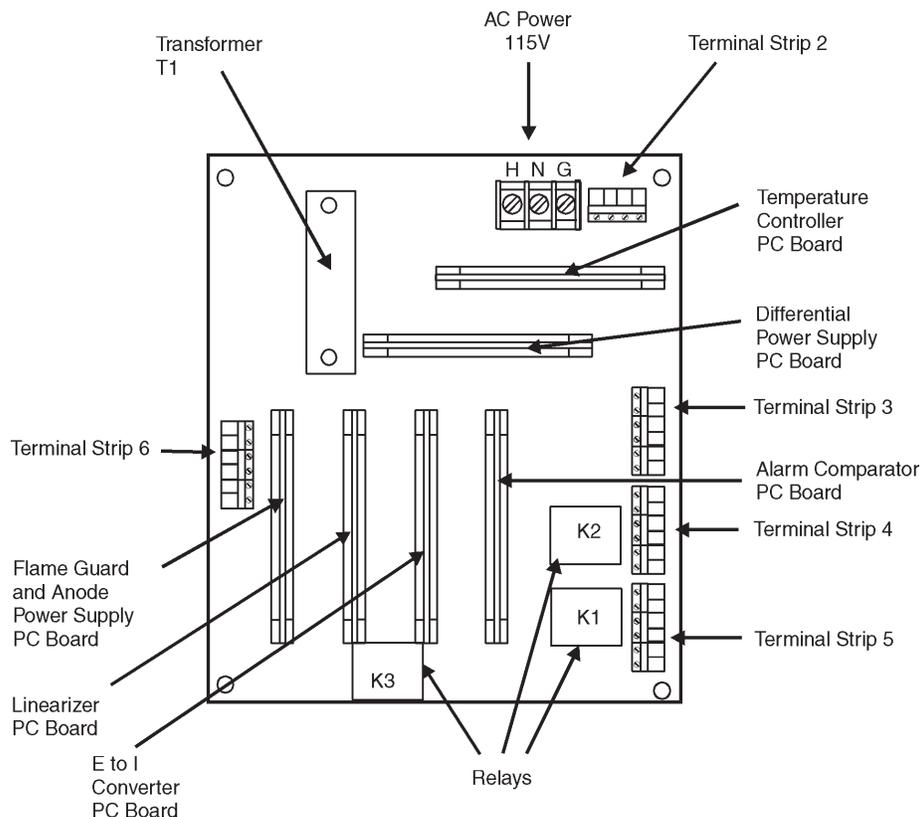

Figure 5-3: Motherboard
wire and the remaining undisturbed terminal. See Figure 5-3. Resistance of the thermistor varies with its surrounding temperature. A reading of between $10\text{K}\Omega$ and $20\text{K}\Omega$ at around $25\text{ }^\circ\text{C}$ may be measured. (Under very cold conditions, the resistance could be as high as $50\text{K}\Omega$; under hot conditions, just a few thousand ohms.) If the thermistor measures anywhere in this range, it is most likely OK. Otherwise, if the circuit is open, check the wires leading to the thermistor.
4. Check the heating element by measuring its resistance. Disconnect one of the heater wires from either terminal 3 or terminal 4 of TS-2 on the motherboard which is shown in Figure 5-3, and check the resistance between that wire and the remaining undisturbed terminal. If a reading of $288\Omega \pm 10\%$ is found, then the heating element is most likely OK. If an open circuit is found, check the heater wires and a possible connector between the heater and TS-2. If no problems are found, and the heater circuit is open, then replace the heater element.
5. Observe the K3 relay operation as the selector switch is moved in and out of the IGNITE position (see Figure 5-3). If the relay does not energize in the IGNITE position, remove it and check it for an open coil (pins 13 and 14). The nominal resistance is 650Ω . If the coil checks OK, remove the flame guard power supply board and check the forward and backward resistance of its transient suppression diode by measuring pins 13 and 14 of the relay socket. A multimeter should be set to the “diode test” setting. The positive lead from the multimeter shall be connected to socket number 13 on the relay socket and the negative lead to socket 14. In this direction the multimeter should indicate approx. 0.6 V and it should indicate an overload when the lead connections are reversed. If these readings are not obtained, then the diode (“D1” on the mother PCB) must be replaced.